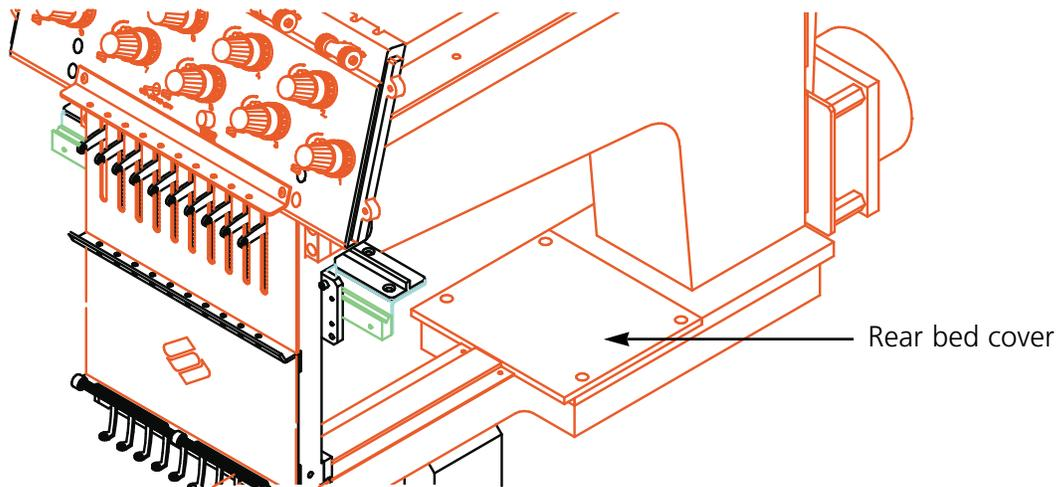

Figure 5-13
2. Remove the rear bed cover shown in Figure 5-13.